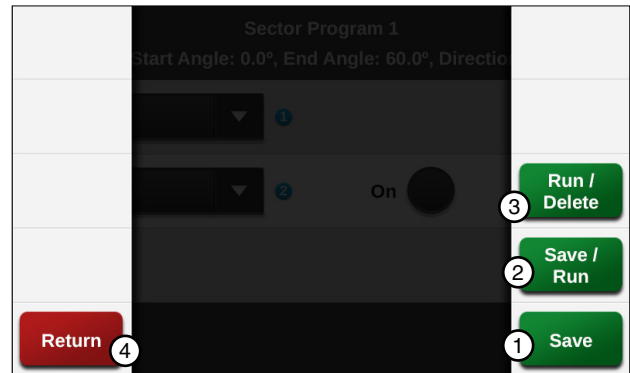

Figure 145-2 1. Save 3. Run/Delete
4. Finish the program by selecting one of the following. Refer to Figure 145-2.